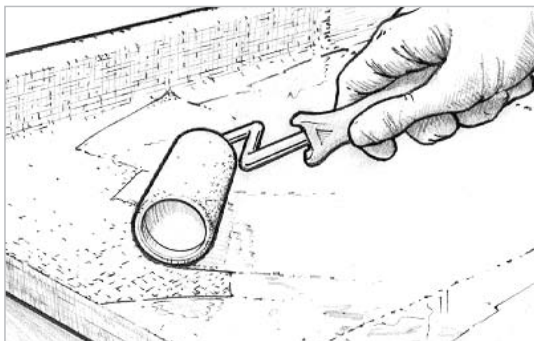

Figure 9-22 Apply the first coat of unthickened epoxy to fill the weave of the cloth before the wet-out coat becomes completely tack free.
9. Coat the surface to fill the weave before the wet-out becomes completely tack free (*Figure 9-22*). Follow the procedures for epoxy barrier coating under Section 9.4.6. It will take two or three coats to completely fill the weave of the cloth and to allow for a final sanding that will not affect the cloth.